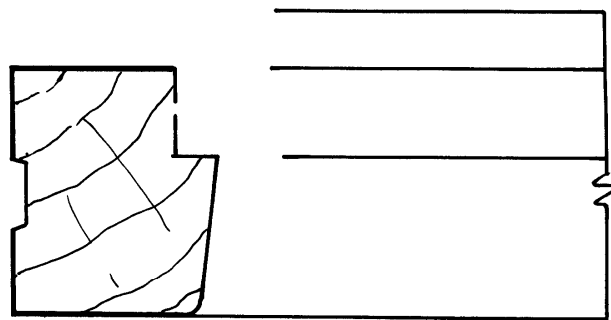

Fig.4
12. Fig. 4 shows a half full size horizontal section through the frame, jamb and part of the casement of a stormproof window. Complete the detail to include the casement stile.